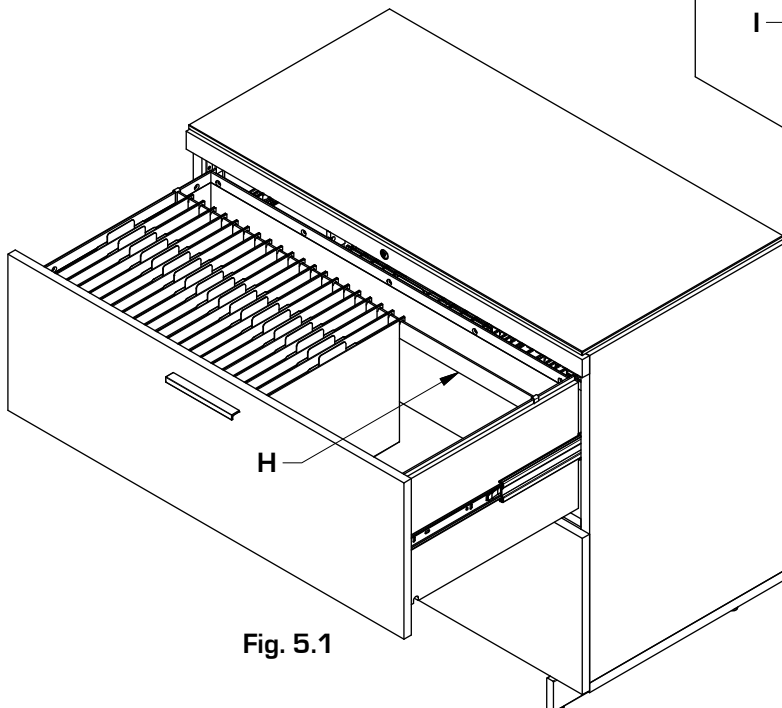

Fig. 5.1
Legal File Folders can be installed in the lateral drawers front to back without installing File Folder Brackets. If users wish to install Letter or A4 File Folders Front to Back, install **Large File Folder Bracket (H)** by lowering bracket onto drawer sides [see Fig. 5.1].